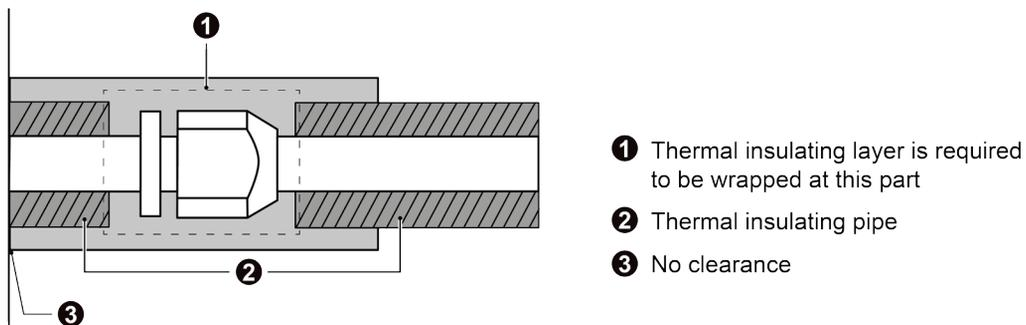

Fig.4.4.10
- 3) Joints at indoor and outdoor units should be wrapped with insulating material and leave no clearance between pipe and wall. See Fig.4.4.10.